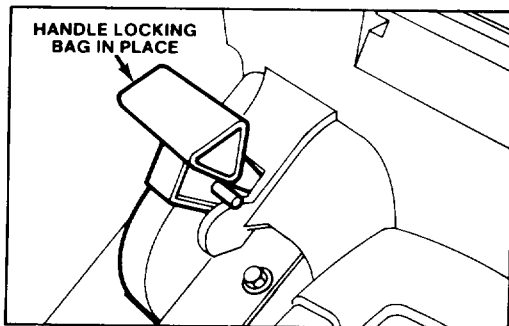

Figure 11
4. Pull chute door handle backward until pin locks bag in place (Fig. 11). Chute door in mower housing is now open.